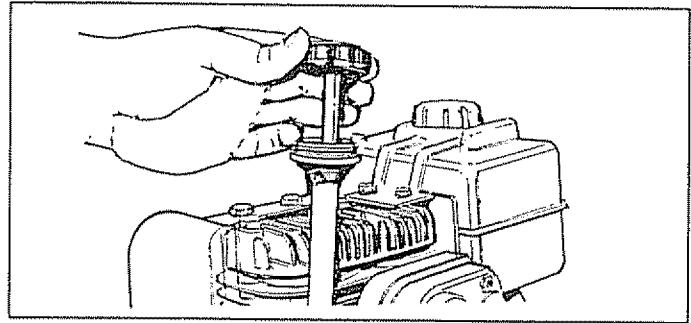

FIG. 13
- Clean area around oil fill and remove oil dipstick (Fig. 13).